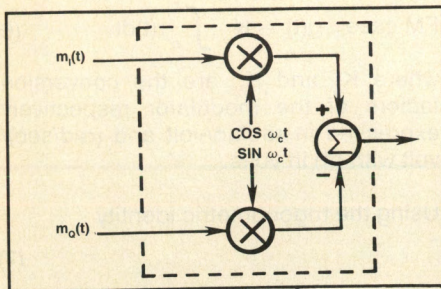

Figure 5. QAM modulator.
As defined in most communication textbooks, a quadrature amplitude modulation (QAM) system is a scheme which enables two DSBSC modulated waves to occupy the same transmission bandwidth, and yet allows for separation of the two baseband messages at the receiver output (20). This scheme is also known as quadrature-carrier multiplexing. Figure 5 illustrates the basic block diagram of such a system proposed in 1926 by R.K. Potter (21) for broadcasting binaural sound. At the receiver, coherent demodulation is mandatory for total separation of the two messages  $m_I(t)$  and  $m_Q(t)$ . As an unmodulated carrier is not transmitted along with the QAM signal it may be impossible to regenerate such a synchronous carrier at the receiver. As early as 1932, A.V.T. Day recognized this and proposed to add an unmodulated carrier to the transmitted QAM signal for purpose of carrier synchronization (22). There exist today many modern communication systems based on his idea.